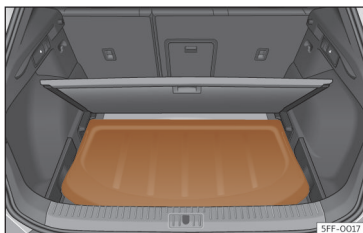

Fig. 186 In the boot: fitting the rear shelf.
- Place the rear shelf in the corresponding housing >>> **Fig. 186**.